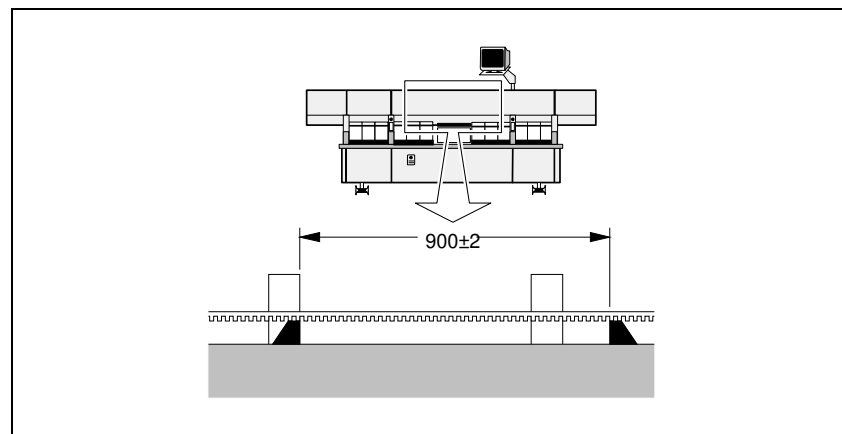

Figure 5-2. Measuring the X belt tension.
3. Put the two prisms on the X rail with the flat edge upwards as shown in Figure 5-2, under the X belt upper part. They should be placed with a spacing of 900 ± 2 mm.